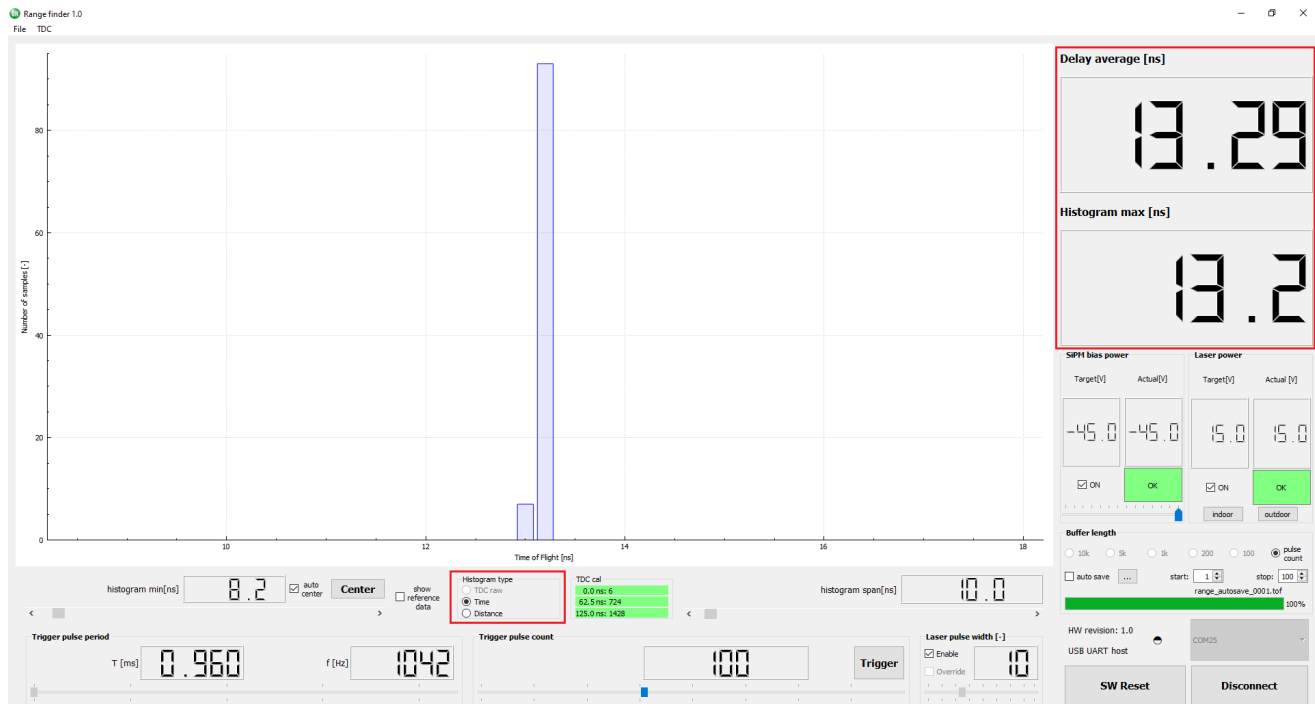

Figure 16. Switching from Distance to Time of Flight Measurement [ns]
- Rangefinder's GUI is capable of visualization Time of Flight data [ns] except default distance measurement [m]. The setting is available under *Histogram* type box and check *Time* (Figure 16). ToF data is then visualized in [ns].